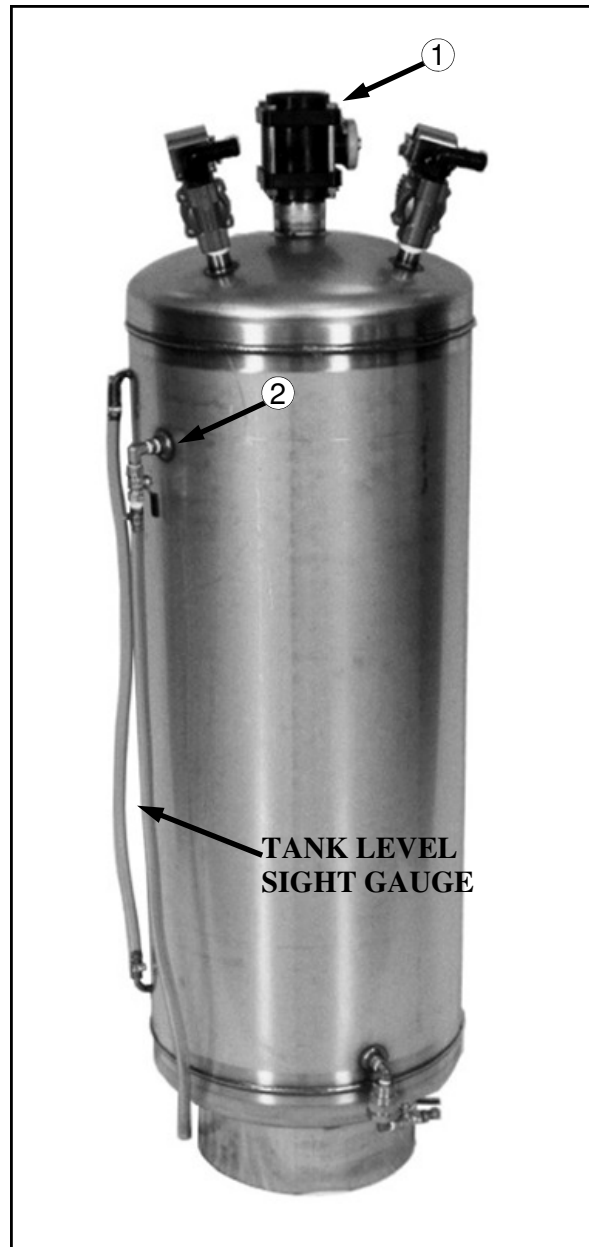

FIG 4.39-1
FILLING THE FOAM MARKER SYSTEM– Relieve pressure from the foam tank by opening the ¼” ball valve on the side of the foam tank (fig. 4.39-1, item 2). Close the ball valve after pressure is relieved. Open the top 2” ball valve (fig. 4.39-1, item 1). Add water to the tank, leaving enough room for the foam concentrate. Next add the foam concentrate according to the label on the container. After filling is complete, close the 2” ball valve on top of the tank. Start the sprayer’s engine and adjust the air pressure accordingly (see previous page).